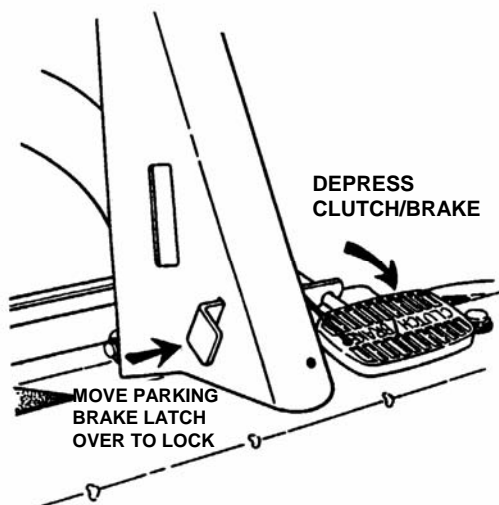

FIGURE 4.8
4. Depress clutch/brake pedal all the way down. Move and hold the park brake lever in the "ON" position and release the clutch/brake pedal to lock the park brake. See Figure 4.8.